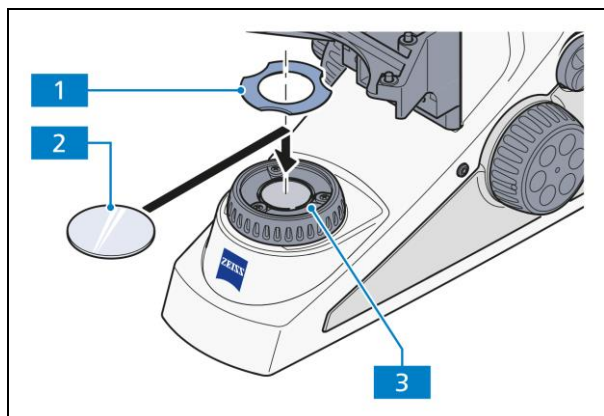

Fig. 2-16 Filter mount on luminous-field diaphragm operating ring for filter $d=32 \times 4$ mm
- Place the filter (Fig. 2-16/2) on the luminous-field diaphragm operating ring (Fig. 2-16/3).
- To secure the filter, insert the filter clamp (Fig. 2-16//1) on the luminous-field diaphragm operating ring.